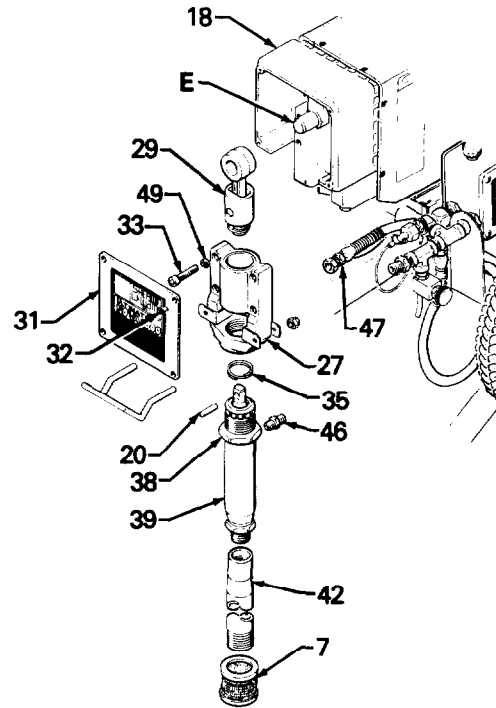

Fig 20
BEARING HOUSING & CONNECTING ROD REPLACEMENT (See Fig 20 and 21)
14. Install the screws (33) and lockwashers (49) on the bearing housing and tighten evenly.
15. Screw the displacement pump about 3/4 of the way into the bearing housing (18). Hold the pin (20) up to the pin hole in the connecting rod assembly (29) and continue screwing in the pump until the pin slides easily into the hole. Back off the pump until the top threads of the pump cylinder are flush with the face of the bearing housing and the outlet nipple (46) is facing back. Push the retaining spring (35) into the groove all the way around the connecting rod. Tighten the locknut (38) very tight—about 75-85 ft-lb (102-115 N·m)—with a 2 in. open end wrench and a light hammer. See Fig 20.